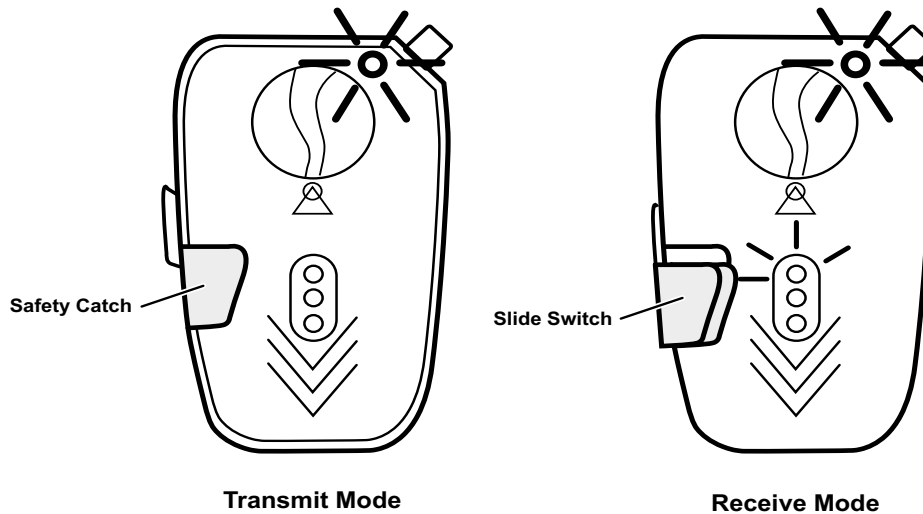

Figure 1-13. Transceiver in Transmit and Receive Modes.
- Transmit Mode. All avalanche transceivers have a transmit mode (Figure 1-13), which sends out a continuous signal (usually on the 457 kHz frequency) that can be detected by other transceivers.
- Search/Receive Mode. This mode allows the transceiver to receive signals (Figure 1-13) from other transceivers in the event of an avalanche. It is used to locate buried individuals.